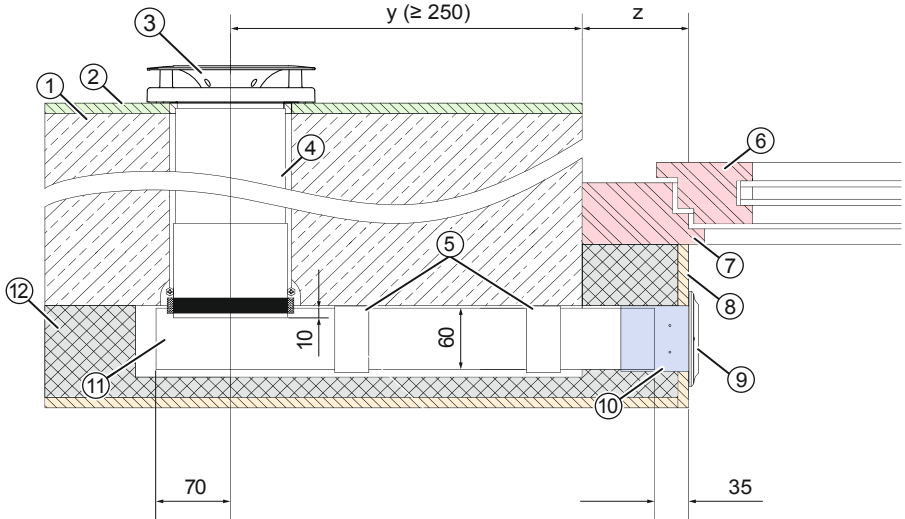

Figure 23: Overview of dimensions for installing flat duct corner
- ▶ Shorten the flat duct (2) to the determined installation length  $L_{\text{insertion}}$  (see Figure 23, page 35).
**Be sure to shorten the flat duct (2) on the opposite side of the round opening (1) for the wall sleeve.**